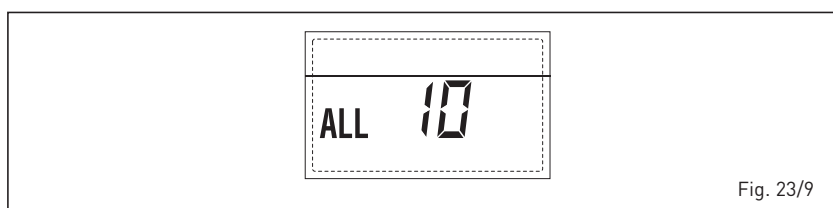

Fig. 23/9
– ACTIVATION OF THE "ALL 13" EXHAUST FUMES PROBE (fig. 23/10)